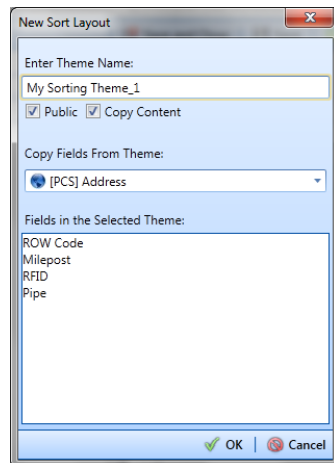

Figure 8-60. New Sort Layout
- 4 Click  **Add** to open the *New Sort Layout* dialog box (Figure 8-60).